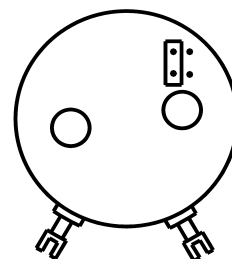

Figure 9: 145°-290°
The range of the ESM21ex is preset to the range (siehe Figure 9) The range can be reduced, if you can not reach the end value (20mA) at full travel of valve.
- Jumper left for measuring range between 145° and 290° (see Figure 9)